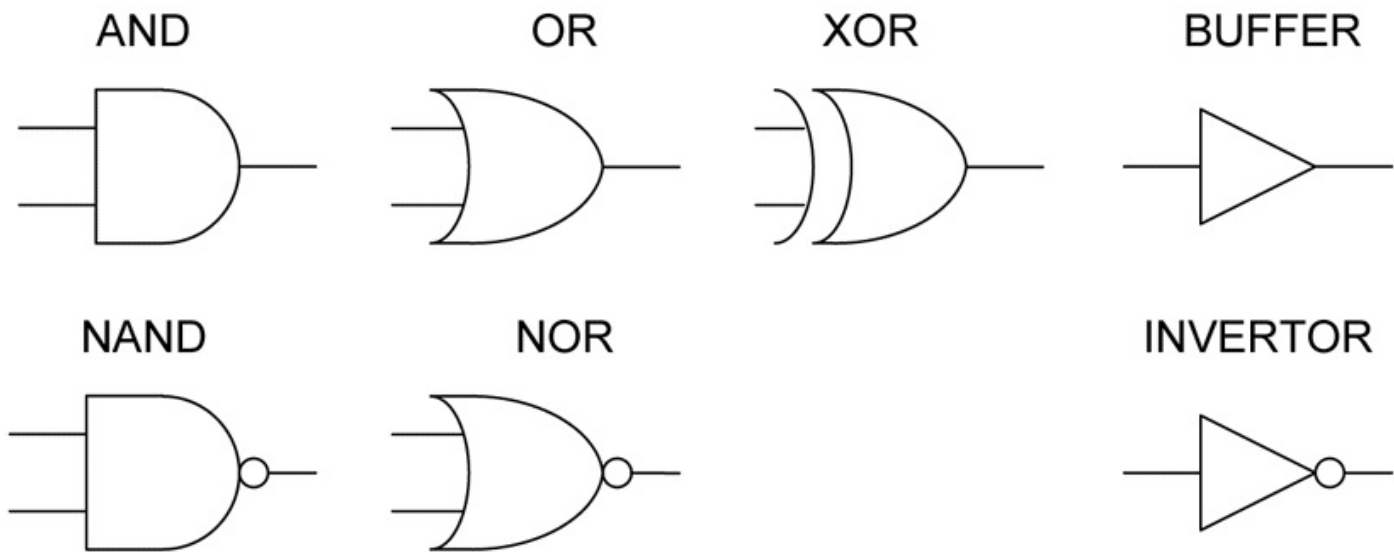

Figure 11-1. Common symbols for digital logic
The Boolean AND and OR operations always have at least two inputs and a single output. A digital circuit is the physical embodiment of a Boolean equation, with symbols for an AND gate, an OR gate, and negation, as shown in Figure 11-1.
The small “bubbles” used with digital logic symbols (as shown in Figure 11-1) indicate negation (or inversion, depending on how you want to think about it) — that is, if a logical true (1) encounters a bubble, it is negated and becomes a logical false (0), and vice versa. For example, Table 11-1 shows the truth table for an AND device (where A and B are the inputs).
Just as the NAND gate is the negation of the AND gate, the NOR gate is the negation of the OR gate. The XOR (which stands for *exclusive OR*) is not a conventional Boolean operation, but it shows up in digital electronics quite often. Figure 11-3 shows each of the gate logic symbols from Figure 11-1 and its associated truth table. The buffer and inverter aren't shown, because their functions are easy to understand.